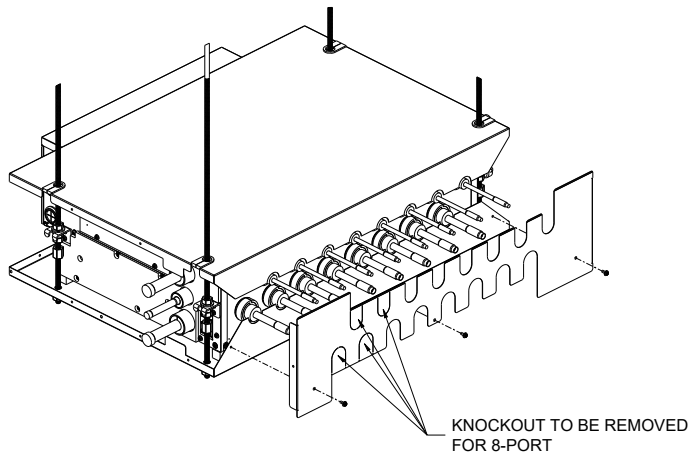

FIGURE G.1
IMPORTANT: For BS-EBF07-AA WHEN THE ENCLOSURE WILL BE USED FOR AN 8-PORT VALVE BOX (BSF8**) MODEL, THE KNOCKOUTS ON THE FRONT PANEL (ITEM 3) MUST BE REMOVED. (REFER TO FIGURE G.1)
2.1 Install the front panel (Item 3) by maneuvering the panel between the pipes of the BSB, aligning the front panel with the Valve Box pipes and the top and bottom panel. Fasten it with screws in the provided locations. (Refer to Figure G.1 & G.2)